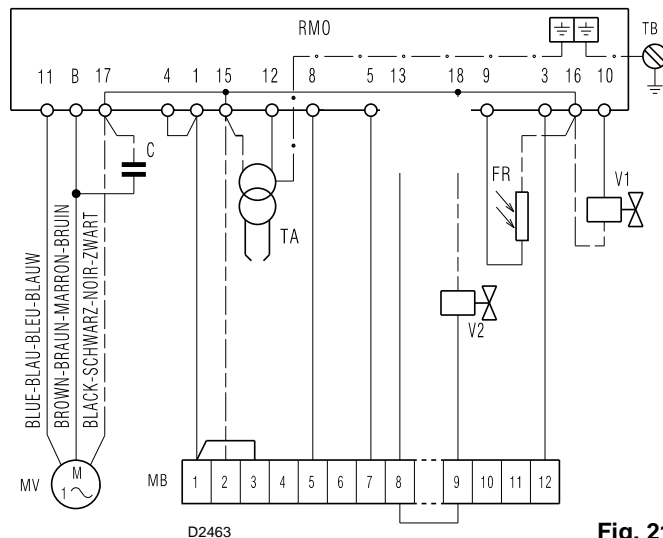

Fig. 21
- LAYOUT (Fig. 21)
Key to Layout (Fig. 21)